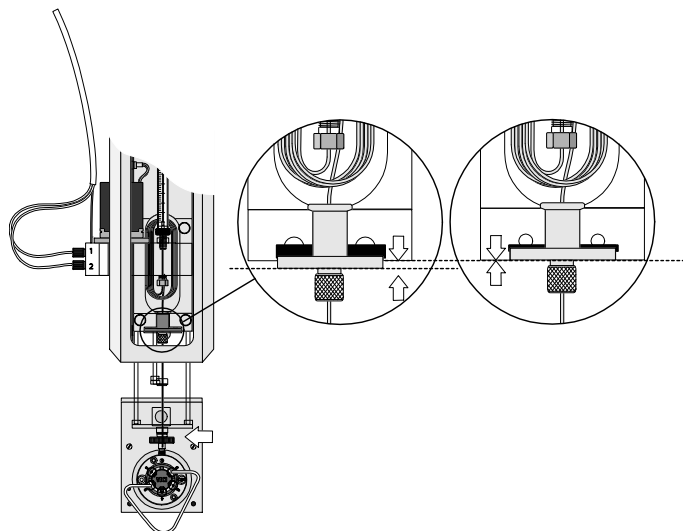

Figure 41. Teaching the Needle Penetration Depth Value.
6. Move down stepwise until the bottom of the cross bar of the DLW Needle Holder Assembly is flush with the lower line of the 'DLW Needle Adapter Block'. See Figure 41 below;
If a 'click' sound occurs, this means the ball-spring loaded 'Needle Holder' is completely compressed. STOP the Z-axis downwards movement immediately. Rotate the outer knob stepwise in the opposite direction until the gap in the spring-loaded 'Needle Holder' is approximately 1 mm, or the bottom of the 'Holder Assembly' is flush with the lower surface of the 'Needle Adapter Block', as in Figure 41. Repeat the needle penetration test and verify the needle penetration depth.
The ball-spring loaded 'Needle Holder' presses the square cut needle tip firmly against the bottom of the valve body. This ensures a constant seal during the injection process. See Figure 41.
The Injection Unit moves to the DLW Wash station, position 'Wash1'. The needle is inserted (dipped) for 1 second to wash the outer needle surface. No plunger movement occurs at this step.	Fig. 41